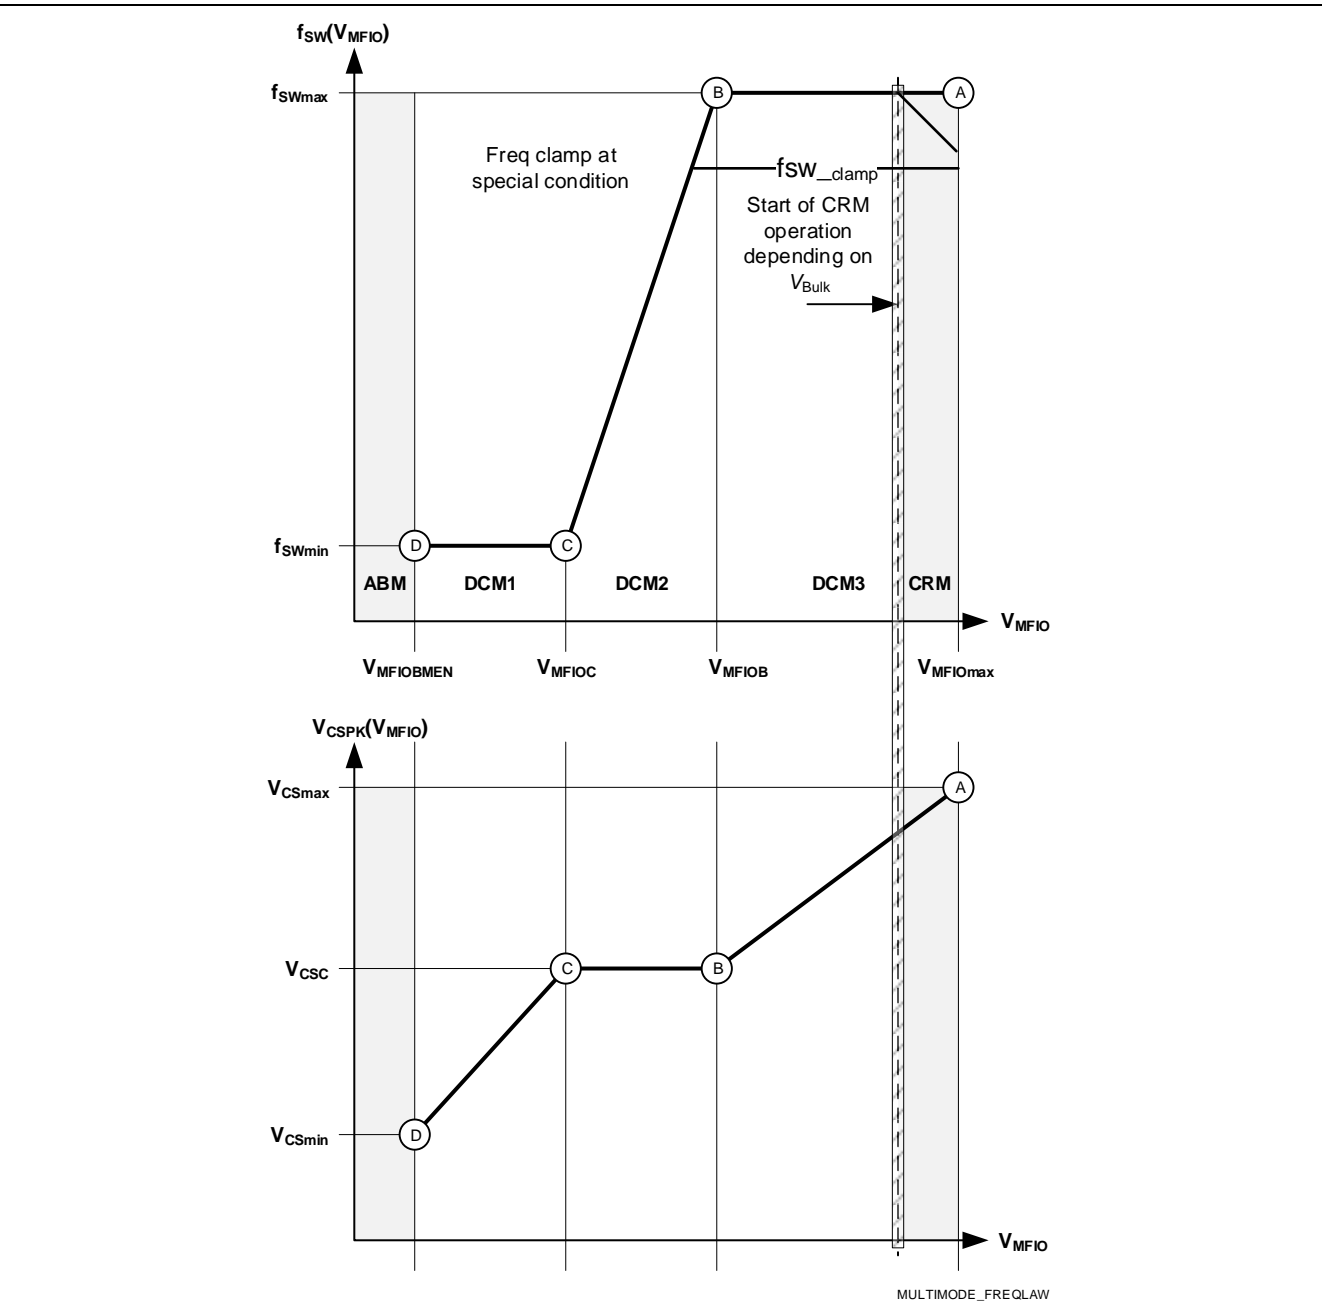

Figure 23 Configurable frequency law and peak current schemes depending on signal at MFIO pin
The configurable multi-mode operation depends on the inductance design, switching frequency, load condition and the bulk voltage V_{Bulk} . It is characterized by the frequency scheme and peak current correlation shown in Figure 23. The peak current limit V_{CSPK} (y-axis) and the frequency limits are set according to the input signal at MFIO pin. The peak current limits for V_{CSPK} are shown for the low and high-line use case (see Chapter 4.2.3), which consider the propagation delay compensation (PDC). The border for entering the burst mode (BM) is determined by the setpoint D. The actual peak current and the actual switching frequency areas follow:
The following Figure 23 shows an example of using all possible multi-mode operation phases that are determined by the corresponding setpoints A, B, C and D. The specific frequency law setting for XDPS21071 based on the FW: REV 1.0 is shown in Chapter 4.2.8.1. Setpoints A and B can change from lowest switching frequency (burst frequency) e.g. 30 kHz to maximum switching frequency 139.4 kHz. Setpoint B and C are also configurable, i.e. V_{mfioC} , V_{mfioB} , V_{csc} are also configurable, so the middle to light load efficiency can be optimized for different combination of frequency and peak current.